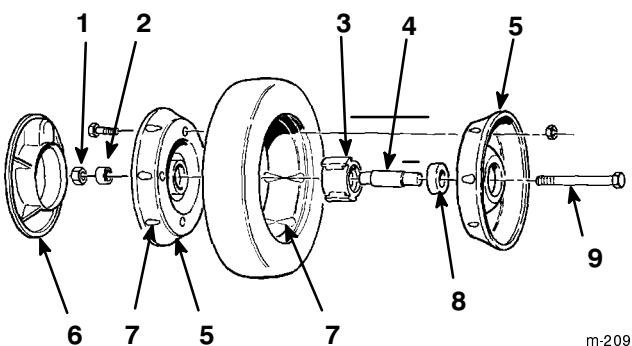

Figure 36
3. Remove the cap screw, the wheel spacer, and the locknut mounting the wheel to the pivot arm (Fig. 36).
4. Separate the wheel halves from the tire by removing four cap screws and four locknuts (Fig. 36).
Note: If you remove the bearings from the bearing/hub assembly, remove them by pressing on the bearing spacer (Fig. 36).
1. Position the tire onto one wheel half, aligning the lugs on each (Fig. 36).
2. Place the bearing/hub assembly into the center hole of the wheel half. Ensure that the legs of the hub are positioned over the flange of the hole (Fig. 36).
3. Place the other wheel half onto the bearing/hub assembly, aligning the wheel and the tire lugs and the mounting holes (Fig. 36).
4. Using two 1/4-20 x 1.50 in. (6 x 38 mm) fully threaded screws or bolts and non-locking nuts, loosely secure the wheel halves together. Mount the screws or bolts in the opposing holes (Fig. 36).
5. Check the alignment of all parts and tighten the screws, alternating from side to side for a uniform fit, until the wheel halves are drawn together (Fig. 36).
6. Install the two cap screws and two locknuts previously removed in the remaining holes in the wheel halves and tighten. Remove the two long screws or bolts and replace them with two cap screws and two locknuts (Fig. 36).
7. Install the wheel to the pivot arm with the cap screws, a spacer, and a locknut. Ensure that the spacer is positioned between the wheel hub and the pivot arm (Fig. 36).